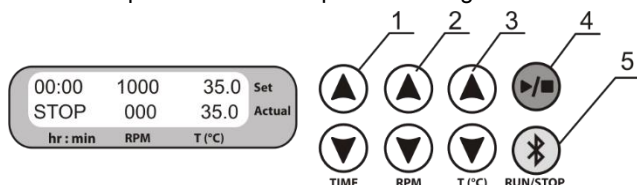

Figure 3. Control Panel
- 5.2.1. Simultaneously press and hold the ►/■ **RUN/STOP** and * **RUN/STOP** keys (fig. 3/4 and 3/5) to view the programming version (PV-XX), last four digits of MAC address (MAC-XXXX) on the top line. If the unit is paired with a PC, display shows the Bluetooth® symbol * in the top right corner and the 14-digit serial ID number of the unit in the bottom line.
- 5.5.1. **Setting time (TIME).** Using the ▲ and ▼ **TIME** keys (Fig. 3/1) set the required working time interval in hours and minutes (increment 1 min).
- 5.5.2. **Setting speed (RPM).** Using the ▲ and ▼ **RPM** keys (Fig. 3/2) set the required speed (increment 10 rpm).
- 5.5.3. **Setting temperature (T, °C).** Using the ▲ and ▼ **T, °C** keys (Fig. 3/3) set the necessary temperature (increment 0.1°C).
- 5.6.2. Press the ►/■ **RUN/STOP** key (fig. 3/4). The platform will start rotating and the timer indicator will start counting up the time interval (with 1 min precision).